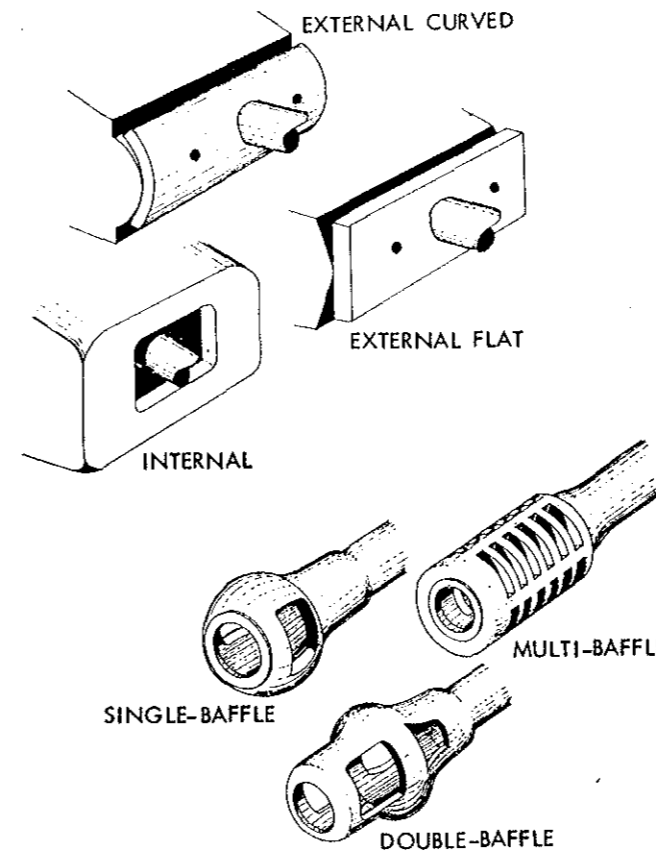

Figure 8.
b. What is the shape of the turret front, and what is the angle to vertical? Is the gun mantlet internal or external, flat or curved (fig. 8)?
b. Has it a muzzle brake? If so, is it of single-, double-, or multi-baffle type? Types are shown in figure 8.